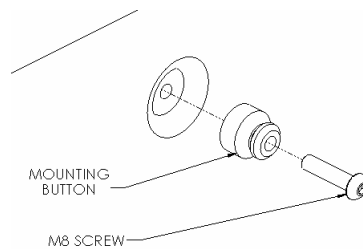
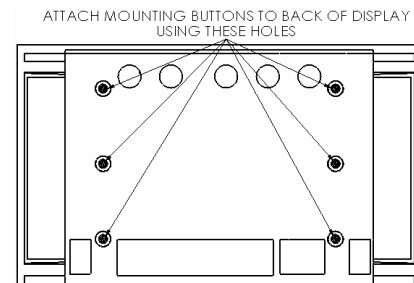

Figure 3
Figure 4
2. Attach mounting buttons to the display using the M8 screws provided (see Figure 3 & Figure 4).